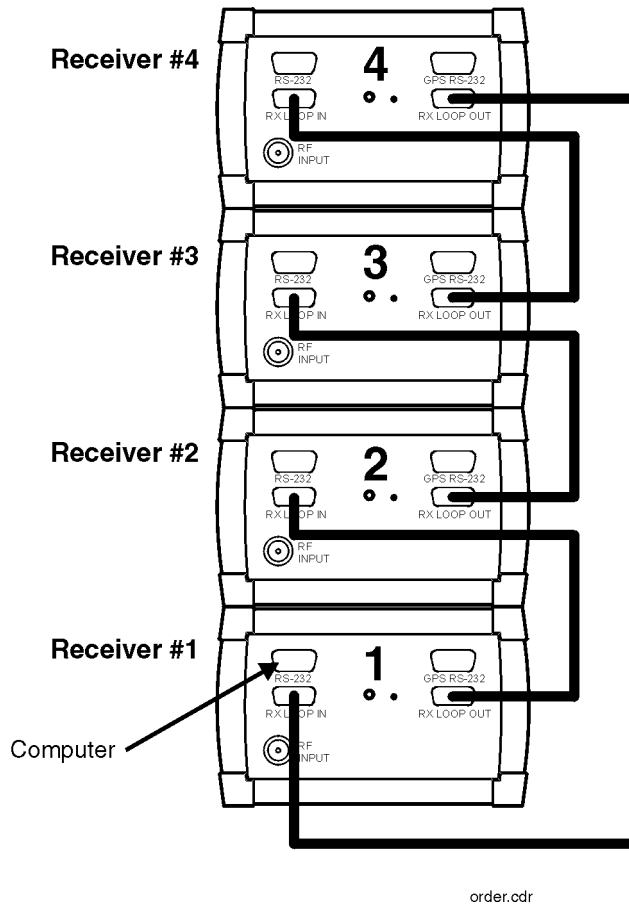

Figure 2-25 Positioning a Series of Receivers
1. Begin by connecting the receivers to each other using the illustrations shown in Figure 2-24 on page 94 and Figure 2-25 on page 98 to guide you. Decide which receiver will act as the master receiver, the receiver to
The position of a particular receiver in a chain of receivers is determined by its proximity in the chain to the master receiver (the receiver connected directly to the computer). The connection is made from RX LOOP OUT on one receiver to RX LOOP IN on the next in the chain. Therefore, the receiver that is connected to the master receiver’s RX LOOP OUT becomes the second module in the chain. The third module is the one connected to the second one’s RX LOOP OUT, and so on. Figure 2-25 on page 98 illustrates how the receivers are configured and numbered by the system.